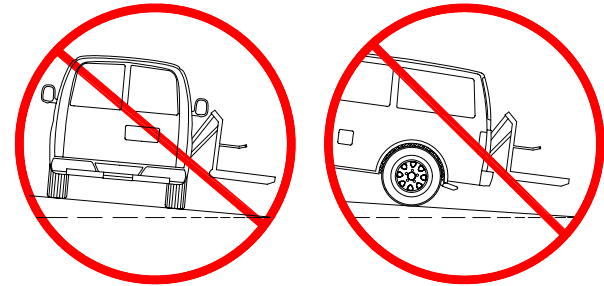

FIGURE 2-1: SLOPED PARKING HAZARD
- Refer to **Figure 2-1**. Deploying the lift when vehicle is on sloped ground is hazardous. Operate lift with vehicle parked on level ground.